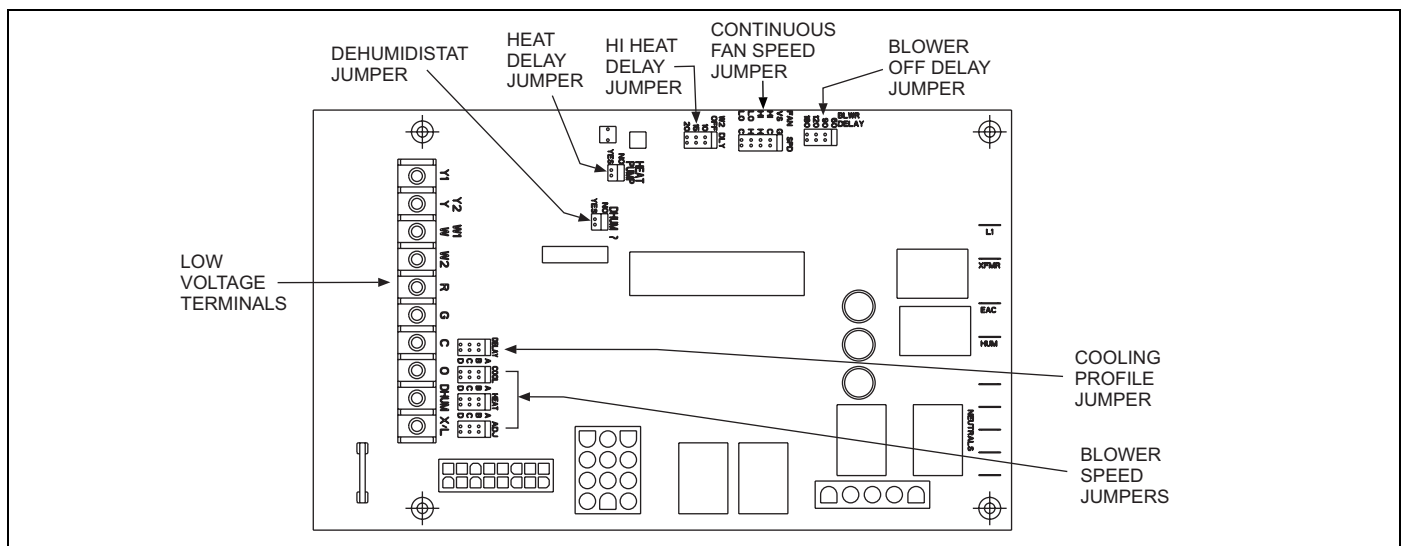

FIGURE 27: Furnace Control Board
This furnace is equipped with a time-on/time-off heating fan control. The fan-on delay is fixed at 30 seconds. The fan-off delay has 4 settings (60, 90, 120 and 180 seconds). The fan-off delay is factory set to 120 seconds. The fan-off setting must be long enough to adequately cool the furnace, but not so long that cold air is blown into the heated space. The fan-off timing may be adjusted by positioning the jumper on two (2) of the four (4) pins as shown in Figure 27.